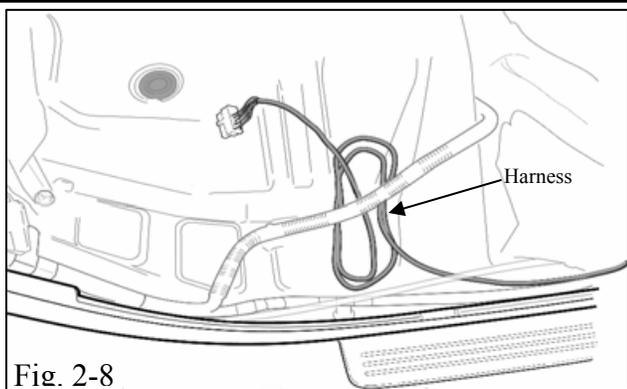

Fig. 2-8
(2) Run harness under the rear washer fluid line and secure under the main wire harness as shown. (Fig. 2-8)